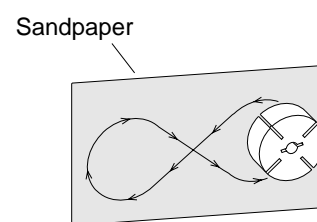

Figure 23 - Sanding Rotor
14. Place fine grade sandpaper (600 grit) on flat surface. Sand rotor lightly in "figure 8" motion four times (see Figure 23).